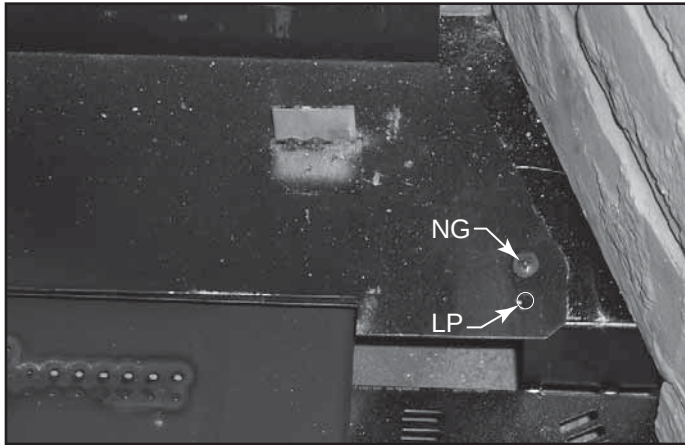

Figure 15.5 Log Bracket is Pre-set for NG or LP
- Your QFP38 log support/bracket is set at the factory for natural gas or propane. Ensure the screws are in the proper holes. See Figure 15.5. If position is not correct, remove screw from each side and pull support forward for NG, push back for LP. There is only a slight adjustment.